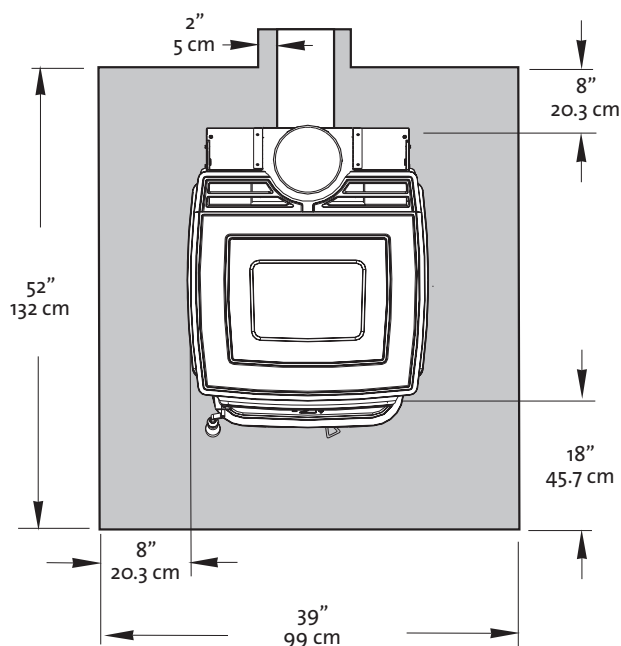

Figure 10. Floor Protection minimum dimensions, Canada.
**IN CANADA:** Floor protection must extend 18" from the front of the stove and 8 in. (460mm) from the sides and rear. It must also extend 2 in. (51 mm) under any horizontal chimney connector. This results in a floor protector dimension of 39 in. x 52 in. (99 cm x 52 cm) See fig.10.